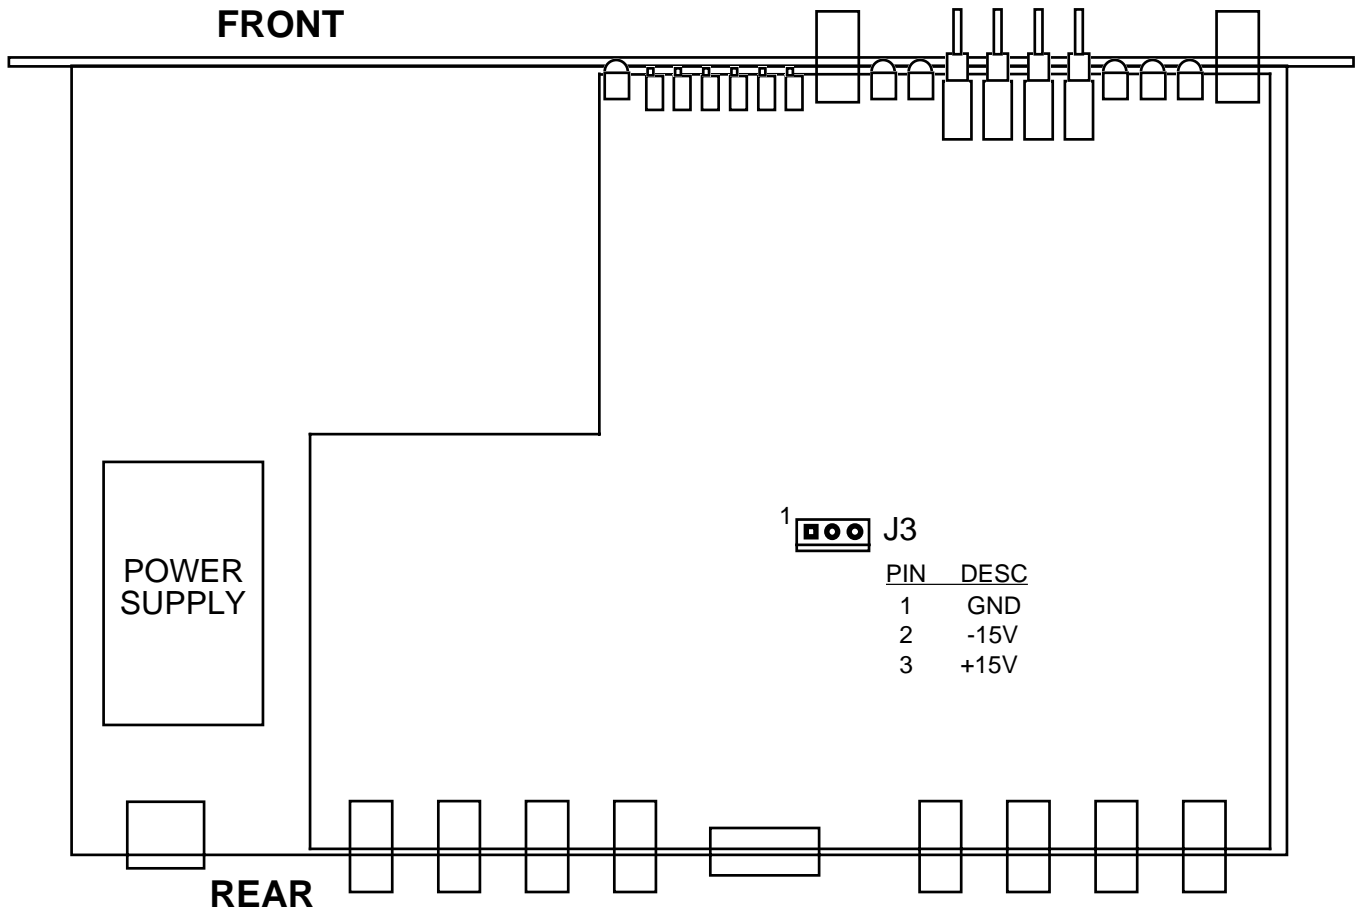

FIGURE 2.1 1200-03 Mechanical Assembly
2.1 Mechanical - The 1200-03 consists of one PCB assembly and one power supply housed in a 1 RU (1 3/4 inch high) by 14 inch deep chassis. An AC power supply provides +15VDC and -15VDC to the PCB. The 1200-03 can be secured to a rack using the 4 holes on the front panel. Figure 2.1 shows how the 1200-03 is assembled.